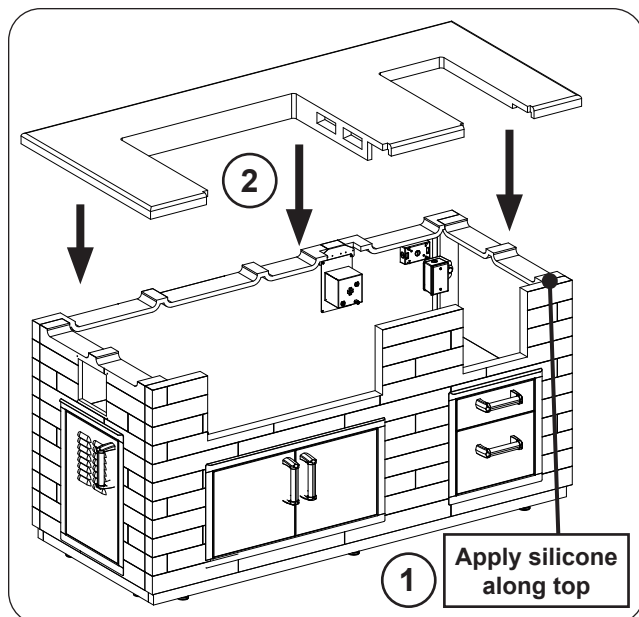

Fig. 13-2 Place countertop
1. Apply silicone along the top of the island (see Fig. 13-2, step 1).
2. Place the countertop onto the island as shown in Fig. 13-2, step 2. (Be sure to align the cutouts in the countertop with the openings in the front wall.)